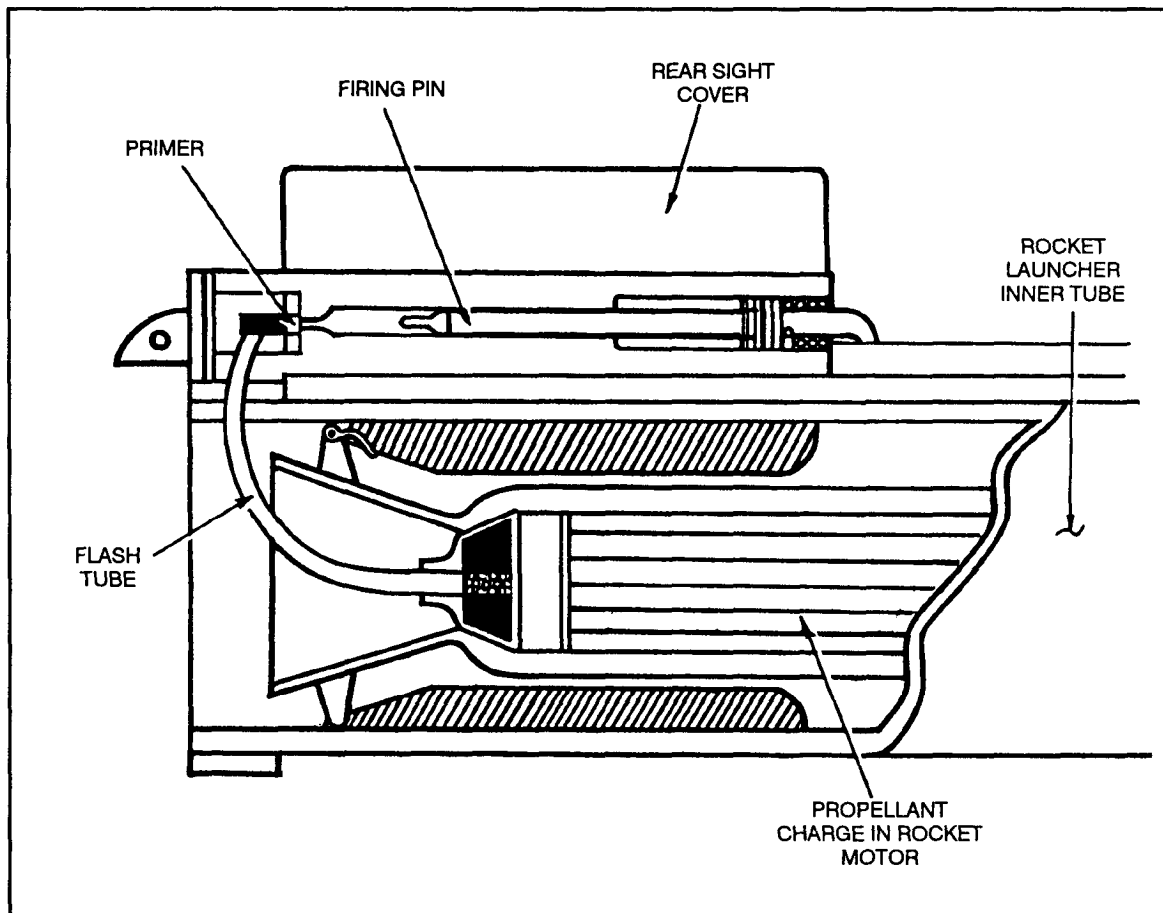

Figure 2-8. Firing pin, primer, and propellant charge.
c. **Firing Pin Rod Assembly.** The rear sight cover and the firing pin housing are on the top of the rear of the inner tube. Inside the housing, the primer and the firing pin rod are aligned (Figure 2-8, page 2-8). Pressing the trigger bar releases the tension on the firing pin rod assembly, allowing the firing pin to strike the center of the primer.